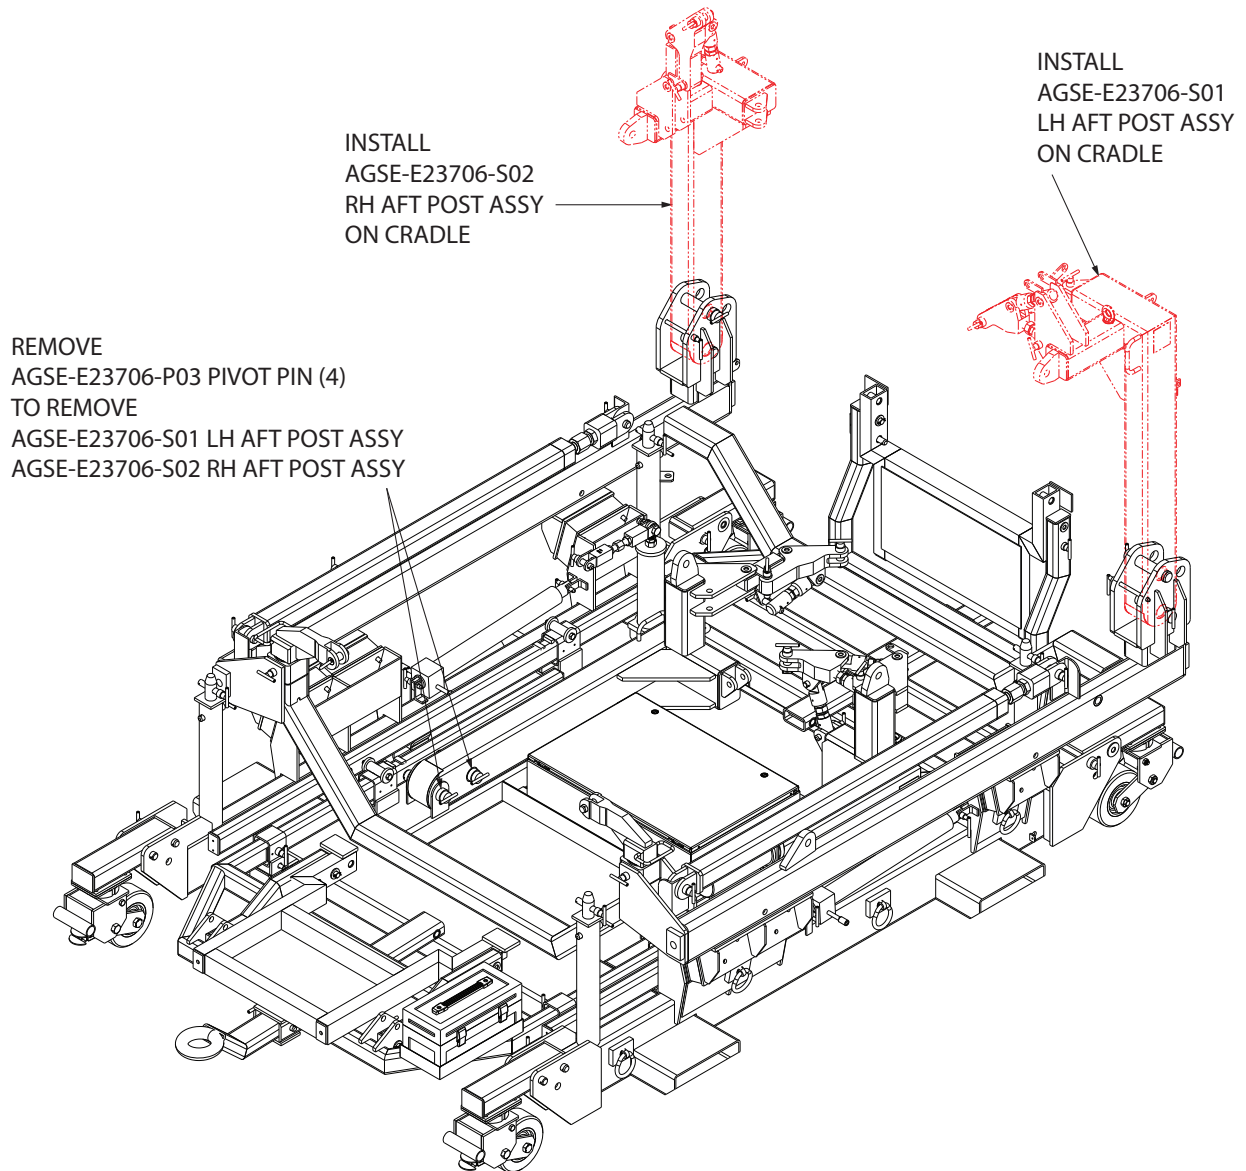

Figure 5.1-2
- 6) Install the LH and RH AFT post assemblies on the cradle and secure with the hardware removed in Step 5. (Illustration Figure 5.1-2).